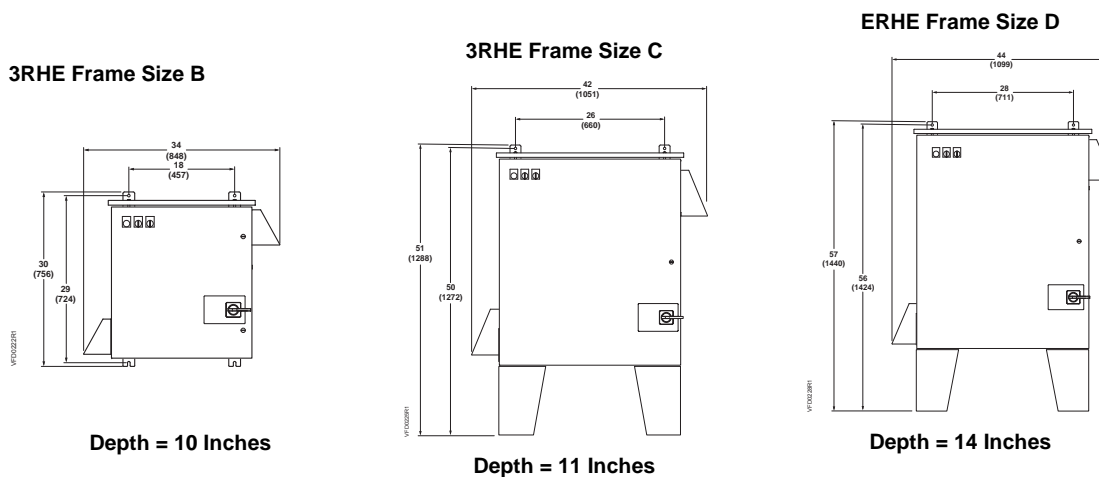

Figure 4. NEMA 3RHE Enclosure Dimensions in Inches (Millimeters).
1. When locating NEMA Type 3R/3RHE enclosure, make certain that the heater/finger guard air inlet (Figure 4) is not blocked and that any environmental substance (such as snow or sand) or other debris will not potentially block the air inlet.
1. Punch appropriate conduit holes for control, motor, and input power wiring (Figure 4).